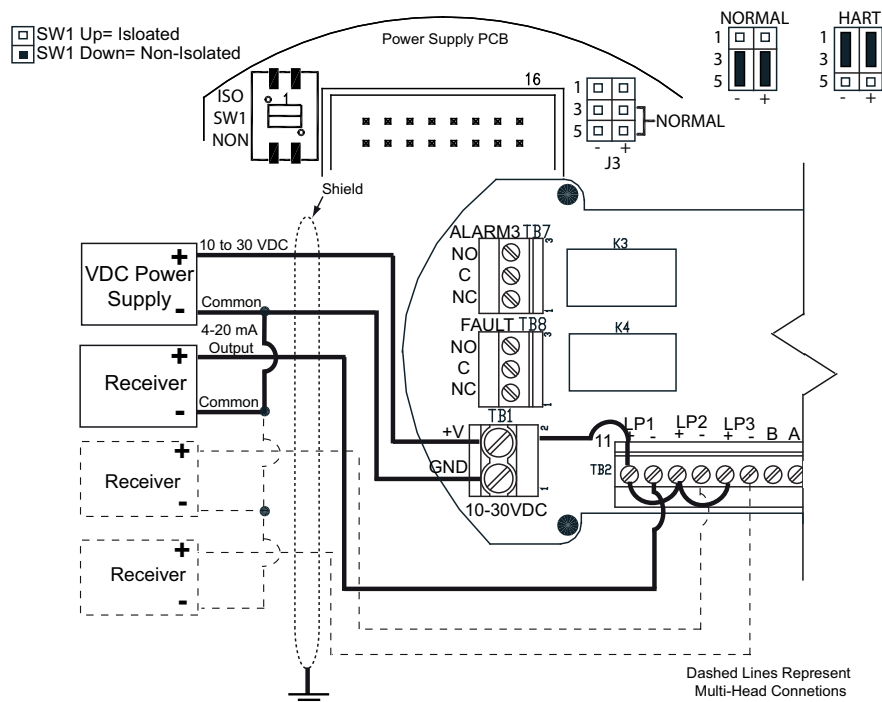
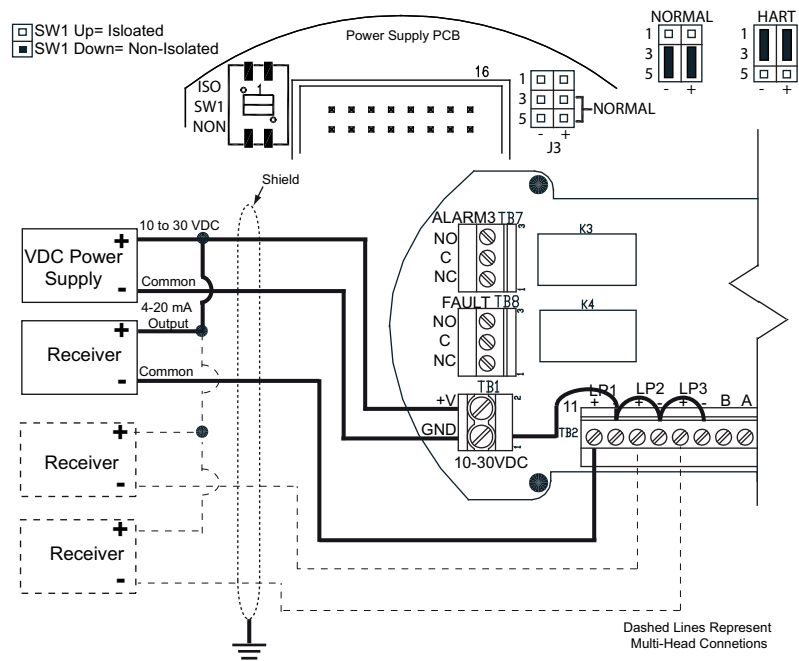

Figure 4-14: Connection for 3-Wire Sourcing
Figure 4-15: Connection for 3-Wire Sinking
5. Connect positive (+) and negative (-) leads from devices to TB2 on the terminal/relay/MODBUS RS-485 PCB (refer to Figure 4-14: Connection for 3-Wire Sourcing and Figure 4-15: Connection for 3-Wire Sinking for details).